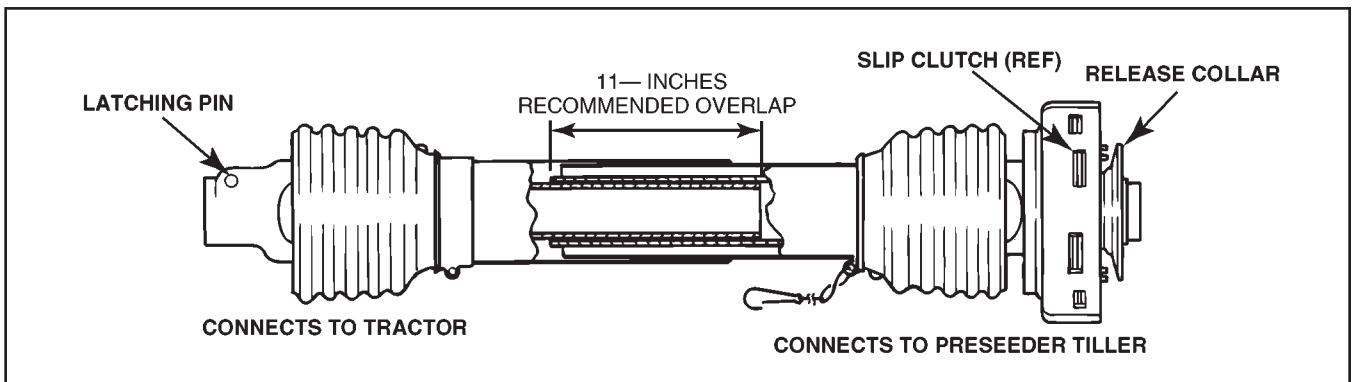

FIGURE 4 Minimum PTO Shaft Overlap
C. Check PTO drive shaft overlap as follows (See Figure 4):